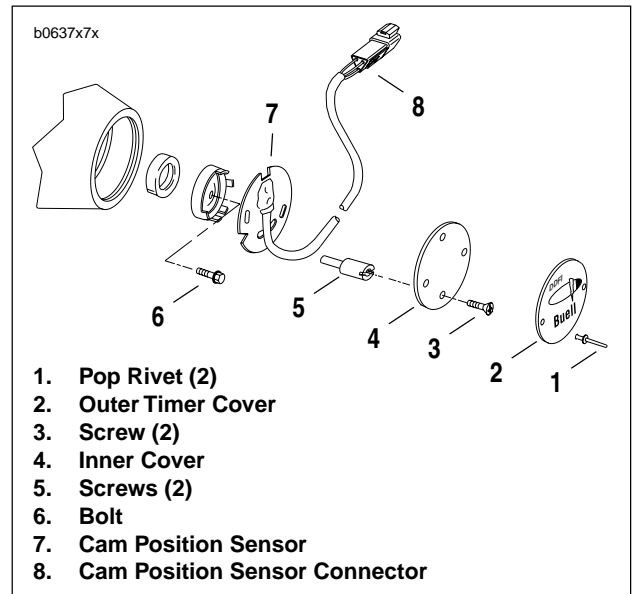

Figure 1-46. Timing Cover
- See Figure 1-46. Locate outer timer cover (2) at bottom of gearcase cover on right side of vehicle.
- Drill off heads of outer timer cover rivets (1) using a 1/8 inch drill bit. Use a punch to tap rivet shafts inboard through holes in outer timer cover. Remove outer timer cover (2).
- Remove two Phillips screws (3) to free inner timer cover (4). If necessary, tap remaining rivet shafts through holes in inner timer cover.
- c. See Figure 1-46. Loosen two screws (5) on cam position sensor (7). Rotate sensor clockwise until the voltmeter registers the change from 0.0-1.0 VDC to 5.0 VDC (+/- 0.5 volts).
- d. Tighten both sensor screws (5) to 10-20 in-lbs (14-27 Nm).
7. Install inner cover (4), inner cover screws (3), outer cover (2) and **new** outer cover rivets (1).